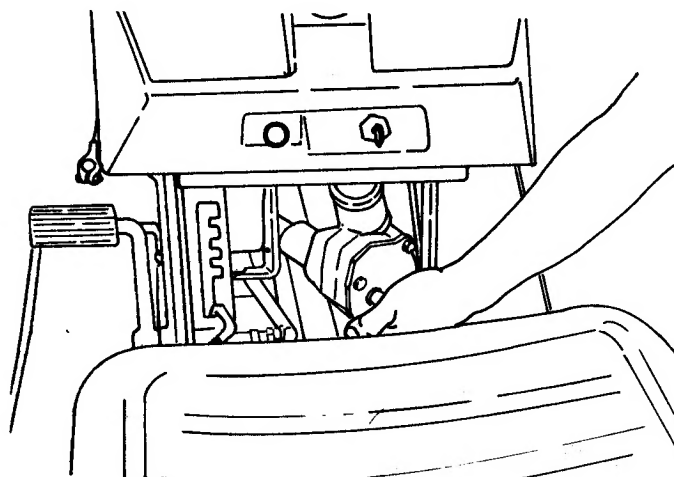

FIG. 2.16 — REINSTALLING STEERING GEAR
6. Remove bolts securing steering gear and work assembly down and out toward right side of tractor. Fig. 2.16.
1. Work steering gear up from right side of tractor and into place as shown in Fig. 2.16.